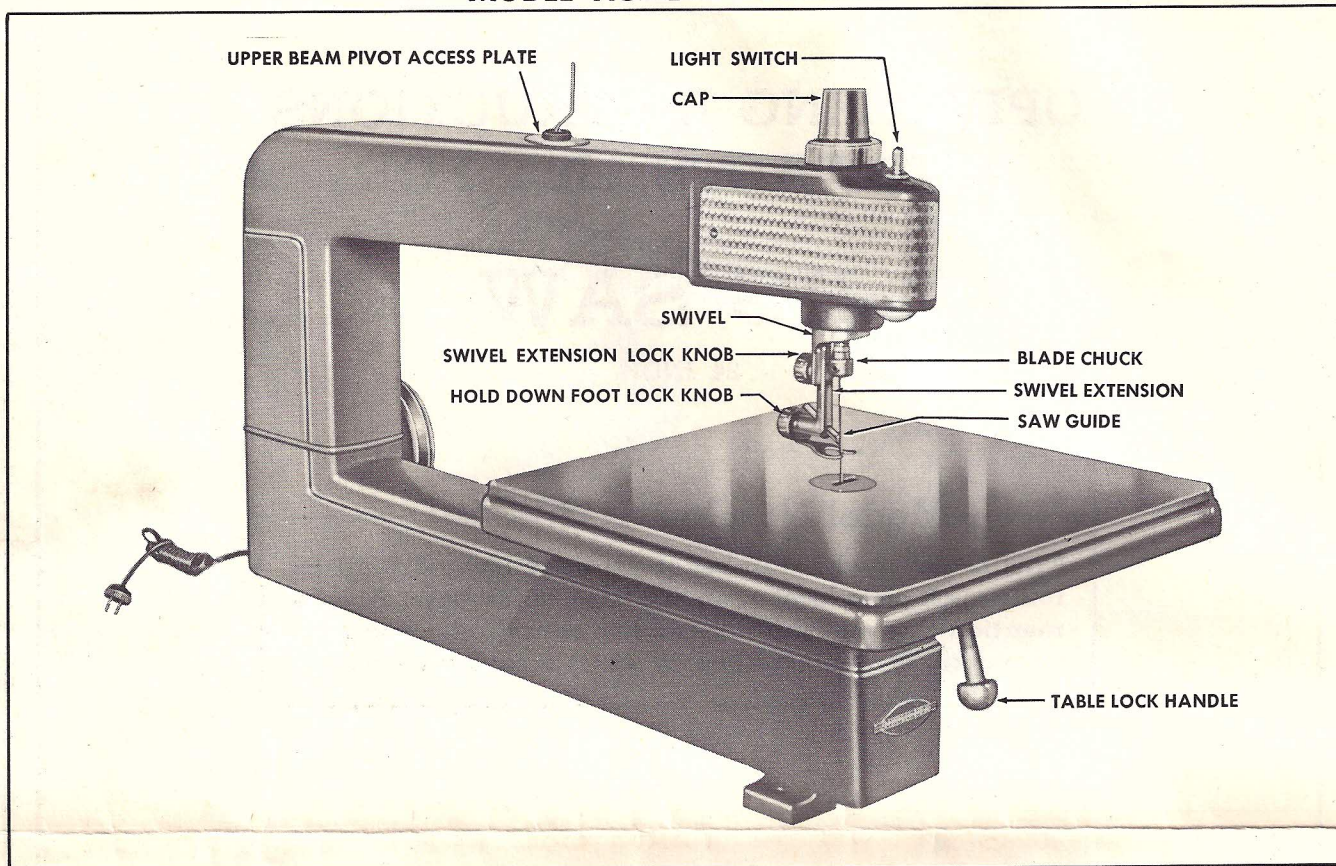

FIGURE 1
6. Place the table insert 18126 in the counter-bored hole at the center of the top surface of the table with the slot running parallel to the front edge of the table as shown in figure 1.
8. Install the upper saw guide assembly by loosening the swivel extension lock knob (figure 1) until the swivel extension 23416 will slide under the head of the swivel extension bolt 23612.
9. Place the access plates in their respective holes as shown in figure 1. The wrench 23646 may be kept in the rubber grommet of the upper access plate when not in use.
The swivel extension allows the hold-down foot and upper saw guide to be raised or lowered to accommodate the various thicknesses of material. The extension is locked in position by the swivel extension lock knob (figure 1).
The swivel may be rotated in place after the cap (figure 1) has been loosened. After the swivel position has been selected, clamp it securely in place by tightening the cap.
An air pump has been incorporated which delivers a blast of air through the upper chuck to keep the area around the blade clear of the saw dust so that the pattern lines on the work piece will remain clearly visible. To insure maximum efficiency of this air jet, the cap (figure 1) must be tight at all times.